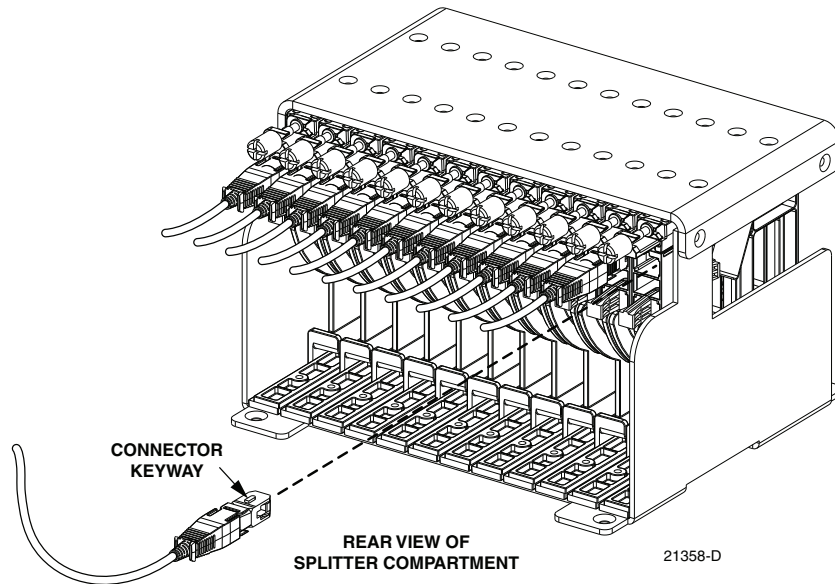

Figure 10. Feeder Cable Connector
4. Remove the corresponding feeder cable connector(s) from the rear of the splitter compartment as shown in Figure 10.
3. Remove the feeder cable connector(s) from the rear of the splitter compartment (see Figure 10).